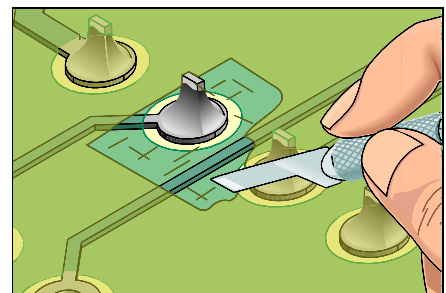

Figure 1: Scrape away damaged or unwanted coating with the Precision Knife or Scraper.
2. Remove the damaged or unwanted coating or solder mask using the Precision Knife or Scraper. Hold the blade perpendicular to the coating and scrape from side to side until the desired material is removed. (See Figure 1).